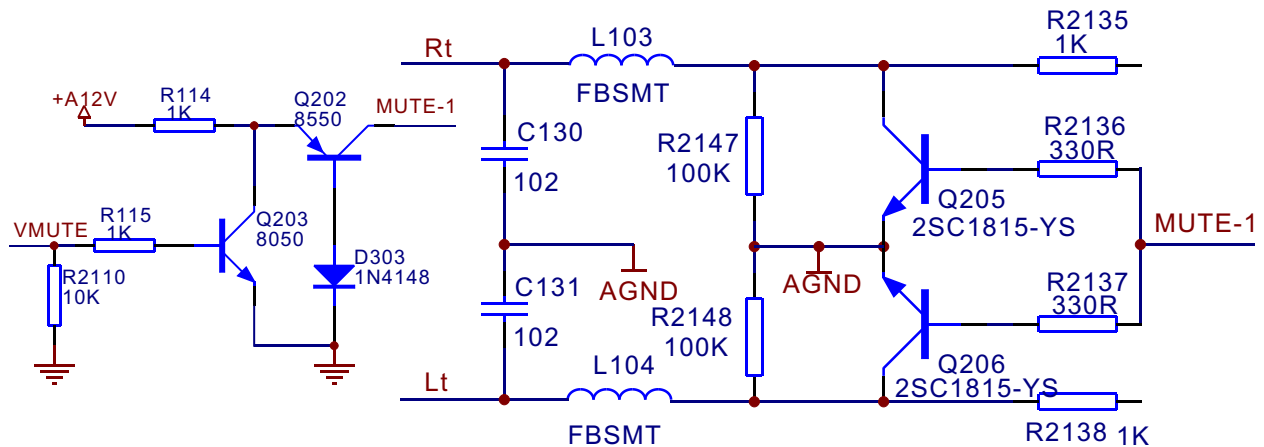

Figure 3.2.12.1 Mute circuit
1. The circuit schematic diagram is shown as the following figure 3.2.12.1: